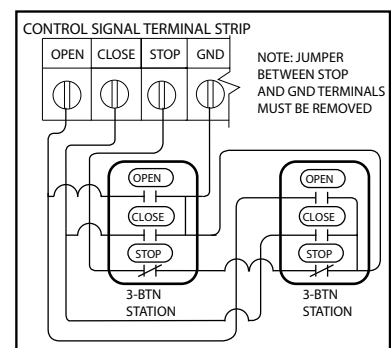

Fig. 3
- 3) For a multiple 3 - button installations, make connections as shown in Fig. 3.